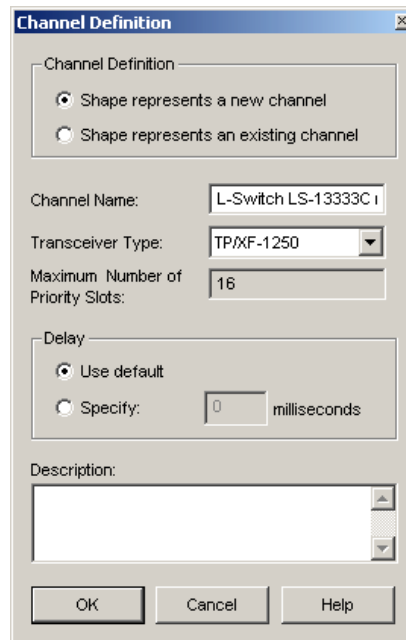

Figure 2: Channel Definition dialog
2. When using LonMaker 3.13 a dialog appears, which asks to create a new channel. This channel (e.g. named “L-Switch LS-13333C (Router)”) represents the internal backbone of the L-Switch. **Make sure you keep the “Channel Definition” selection on “Shape represents a new channel”!** Select “OK” (see Figure 2). Note, that if you insert a second L-Switch shape to your LonMaker project “Shape represents a new channel” must be explicitly selected and the internal backbone channel of the L-Switch will be named “L-Switch LS-13333C (Switch) 1”! **This dialog does not appear when using LonMaker TE!**